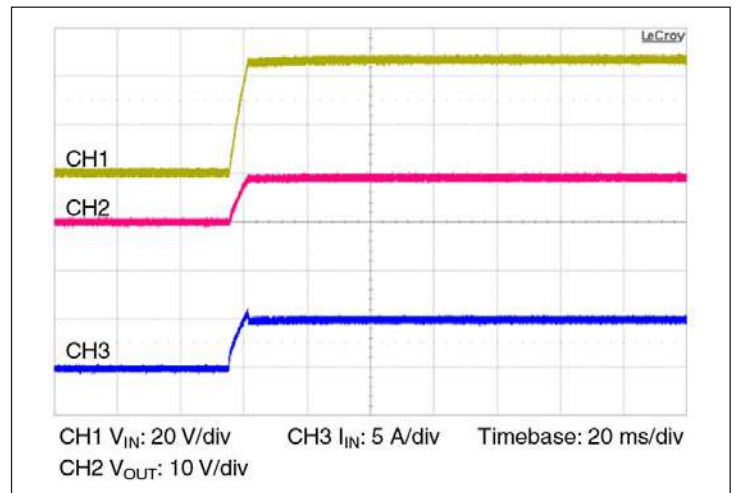

Figure 10 — Start up from application of V_{IN} ; VC pre-applied $C_{OUT} = 1600 \mu F$
- **Normal operation (VC applied prior to V_{IN}):** In this case the controller is active prior to ramping the input. When the input voltage is applied, the VTM module output voltage will track the input (See Figure 10). The inrush current is determined by the input voltage rate of rise and output capacitance. If the VC voltage is removed prior to the input reaching 26 V, the VTM may shut down.